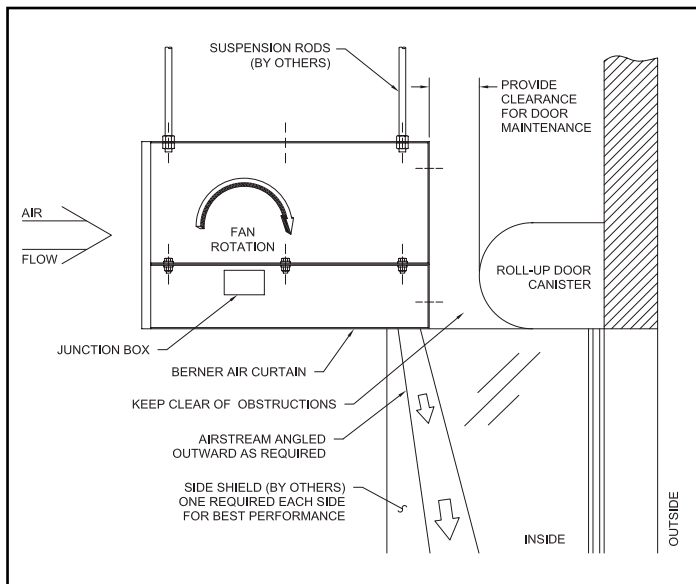

Figure 1
B. **IMPORTANT** See Figures 1-6. The unit should be mounted level with the top of the door opening or level with the side of the opening (for vertical mount). The outlet nozzle shall be located no more than 1" above the top/side of the opening. If the air curtain must be mounted higher, then it must be spaced out from the wall $\frac{3}{8}$ " for every inch the unit is above the opening (4.5" per foot). If the unit is mounted 6" or more away from the opening, side shields are recommended See Figure 1.